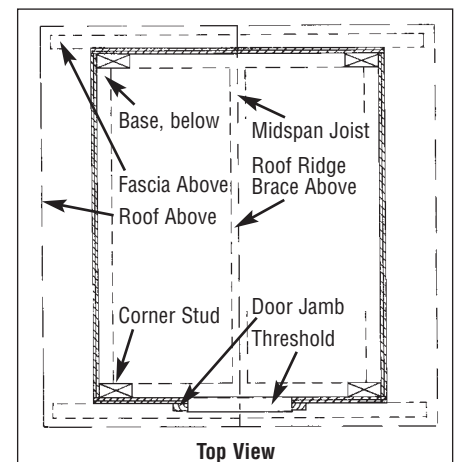

Fig. 3
- Nail base boards together, lapping front and rear over sides. Add a central joist at midspan (shown as dashed line on Fig. 3).